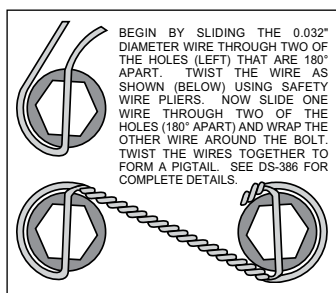

Figure 3. Safety Wire Diagram
- Orient the rotor (6) and the hat (7) as shown in Figure 1 and Photo 2. Attach rotor to hat using bolts (9) and washers (8). Apply red *Loctite*® 271 to the bolt threads and torque to 155 **in-lb** using a criss-cross pattern. For an added measure of security, the bolts may be safety wired using standard 0.032 inch diameter stainless steel safety wire as shown in Figure 3. Please refer to Wilwood's data sheet DS-386 (available at [www.wilwood.com/Pdf/DataSheets/ds386.pdf](http://www.wilwood.com/Pdf/DataSheets/ds386.pdf)) for complete safety wire installation instructions.